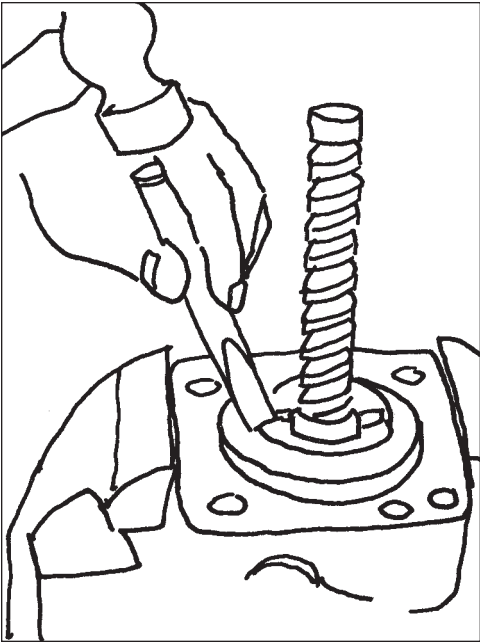

Figure 64
4. Using a hammer and chisel, split the star nut at the grooves in the shaft retaining nut. Discard the star nut (Figure 64).